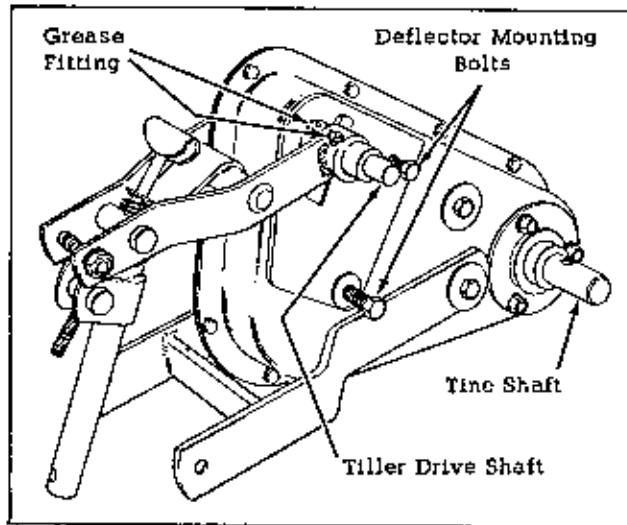
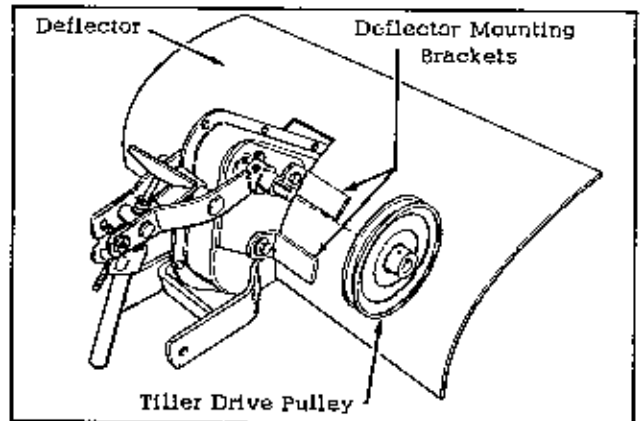

Fig. 1
Fig. 3
2. To attach the deflector assembly to the chain guard assembly; remove 2 mounting bolts from each side of the chain guard as shown in Figures 1 & 2. Mount the deflector so that the holes in the mounting brackets line up with the holes in the chain guard assembly as shown in Figure 3, and replace the mounting bolts in their original holes. Tighten the bolts securely.
4. Assemble the tiller drive pulley to the tiller drive shaft as shown in Figure 3. The pulley is held in place by a key and set screw and is to be mounted with the hub of the pulley facing away from the chain guard.
The tiller is lubricated through 2 grease fittings. One fitting is located on the tiller drive shaft housing and the other is located on the right hand side of the chain guard. See Figures 1 & 2. Lubricate these fittings every 3 hours of operation with a good grade of general purpose automotive type grease loaded in a standard grease gun. Be certain to wipe any dirt from the fittings before applying the grease gun. Failure to clean the grease fittings will result in grit being forced into the bearing surfaces along with the grease. Also apply a few drops of lubricating oil to the moving linkages of the tiller drive assembly from time to time.